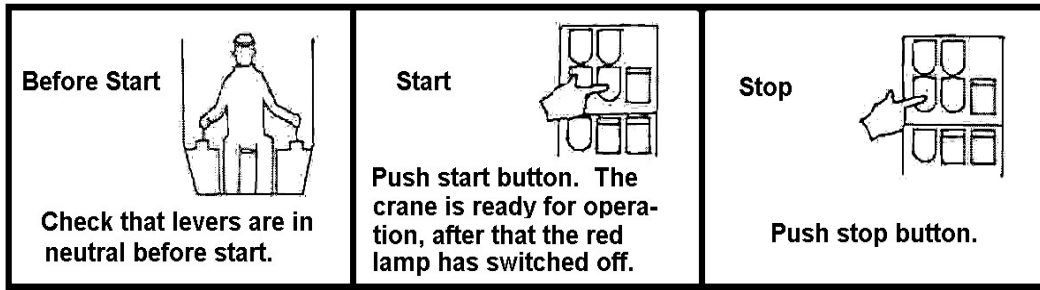

Figure 3-46
- c. Press the start button to start the Haggglunds crane (see Figure 3-46).